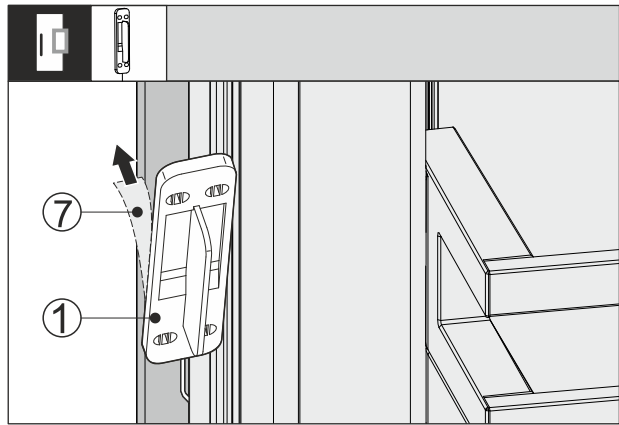

Fig. 65
- ▶ Remove the protective film Fig. 65 (7) on the back of the knocking sensor Fig. 65 (1).